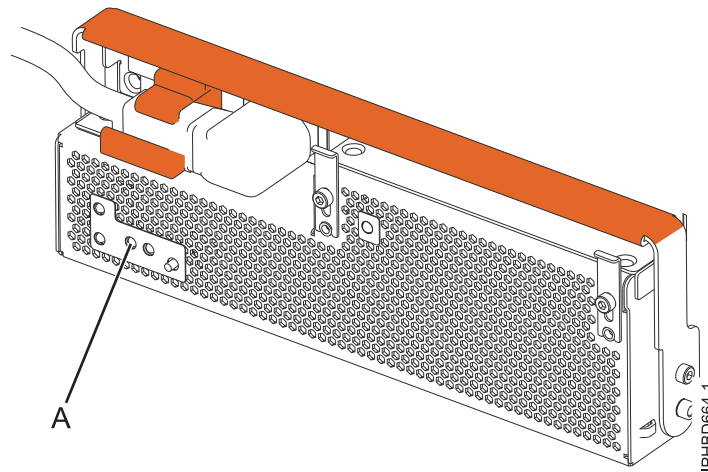

Figure 7. FRU fault and identify LED
light-emitting diode (LED) (A) as shown in Figure 7. A lit (flashing or on solid) LED indicates the failing power supply.